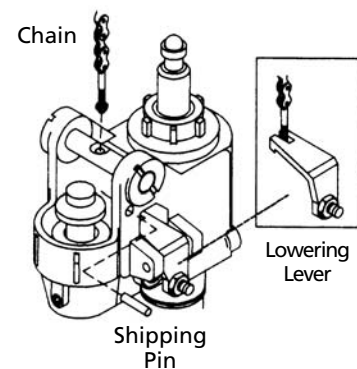

Figure 5 - Lowering Lever
4. Feed chain (included in handle assembly) through hole in handle shaft. Attach chain to lowering lever (See Figure 5).